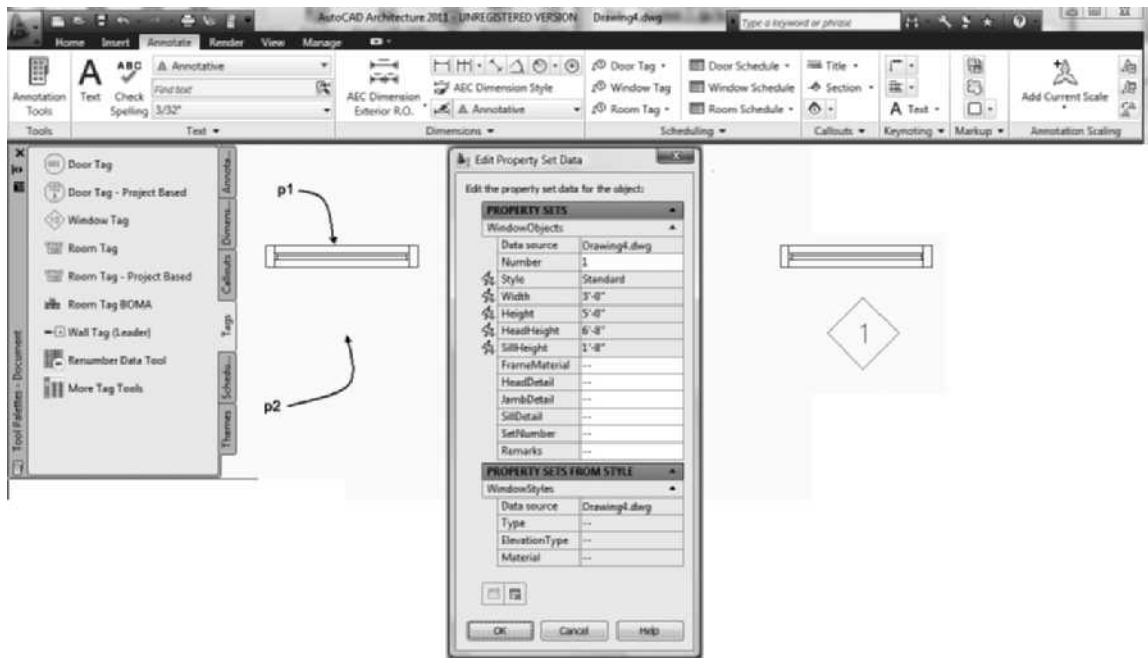

FIGURE 11.38 Placing a window tag
2. Select a window at **p1** as shown at the left in Figure 11.38 for the placement of a tag.
3. Select a location for the window tag (**p2** as shown at the right in Figure 11.38). The **Edit Property Set Data** dialog box opens as shown in Figure 11.38.
4. Edit the **Edit Property Set Data** dialog box and click **OK** to close the dialog box and display the window tag as shown at the right in Figure 11.38.